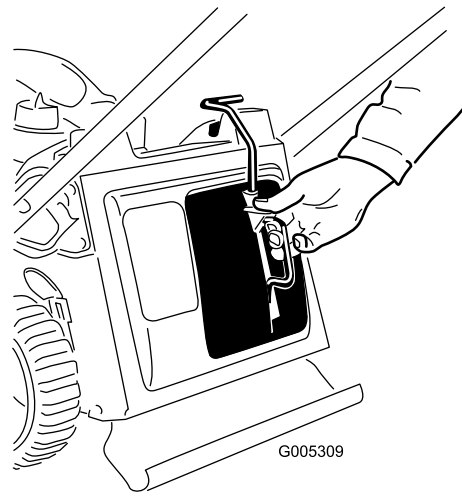

Figure 25
1. Remove the recycle plug (Figure 25).